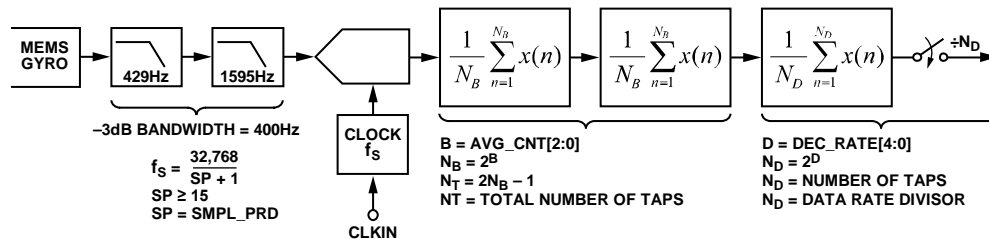

Figure 18. Sampling and Frequency Response Block Diagram
The GYRO\_OUT2 register (see Table 11) captures the bit growth associated with the decimation and FIR filters (see Figure 18) using an MSB justified format. The bit growth starts with the MSB (GYRO\_OUT2[15]), is equal to the decimation rate setting in DEC\_RATE[4:0] (see Table 18), and grows in the LSB direction as the decimation rate increases. See Figure 14 for more details.
Figure 18 provides a block diagram for the sampling and digital filter stages inside of the ADIS16137. Table 15 provides a summary of registers for sample rate and filter control.
| [15:0] | Clock setting bits; sets $f_s$ in Figure 18 |
| [2:0]  | Binary; B variable in Figure 18; maximum = 110 (6) |
The DEC\_RATE register (see Table 18) provides user control for the final filter stage (see Figure 18), which averages and decimates the output data. For systems that value lower sample rates, this filter stage provides an opportunity to lower the sample rate while maintaining optimal bias stability performance. The -3 dB bandwidth of this filter stage is approximately one-half of the output data rate. For example, set DEC\_RATE[7:0] = 0x04 (DIN = 0xA204) to reduce the sample rate by a factor of 16. When the factory default 2048 SPS sample rate is used, this decimation setting reduces the output data rate to 128 SPS and the sensor bandwidth to approximately 64 Hz.
| [4:0]  | Binary; D variable in Figure 18; maximum = 10000 (binary) = 16 (decimal) |